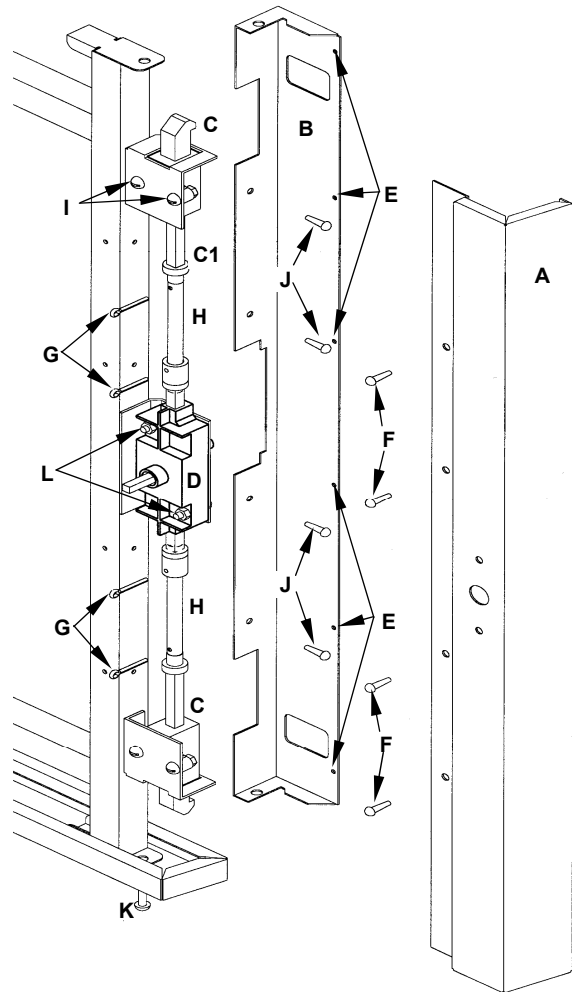

Figure 6.3.29
- 2) Drill out the six rivets (refer figure 6.3.29, Item E below) on the inside of the RH Door Trim (A) using a 3.5mm drill.
- 3) Remove four screws (F) on outside of RH door trim (A).
- 5) Remove the four screws (J) from RH inner door trim (B), and remove trim. (Loosen bottom trim screw (K) if required).
- 6) Remove two split-pins (G) from the connecting rod (H) on latch (C).
- 7) With handle in open position, push latch mechanism (C1) away from connecting rod (H) and remove the connecting rod.